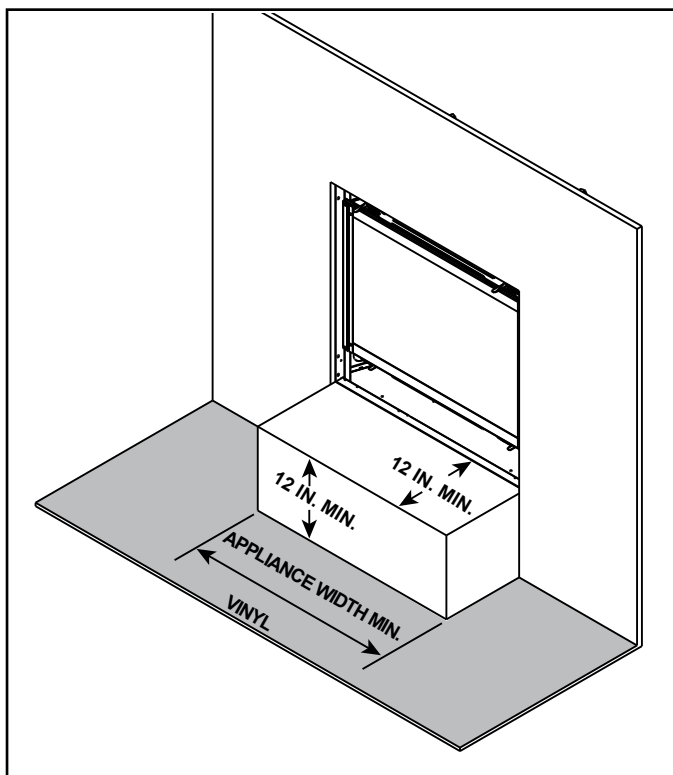

Figure 3.17 Vinyl Flooring Recommendations
- Combustible flooring may be located in front of the appliance. See Figure 3.17 for vinyl flooring recommendations.
Vinyl flooring is sensitive to heat. To avoid damage to the vinyl flooring, a 12 inch minimum x 12 inch minimum hearth is recommended when using vinyl flooring up to the wall. See Figure 3.17. If no hearth is used, it is recommended to provide a minimum of 24 inches of clearance in front of the appliance to the vinyl flooring OR the bottom of the appliance should be raised a minimum of 24 inches off of the floor to allow the vinyl flooring to be installed up to the wall.